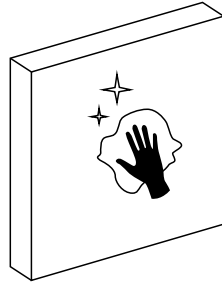

Fig. 6
- 1 Clean the surface to which the keypad is to be attached (Fig. 6).